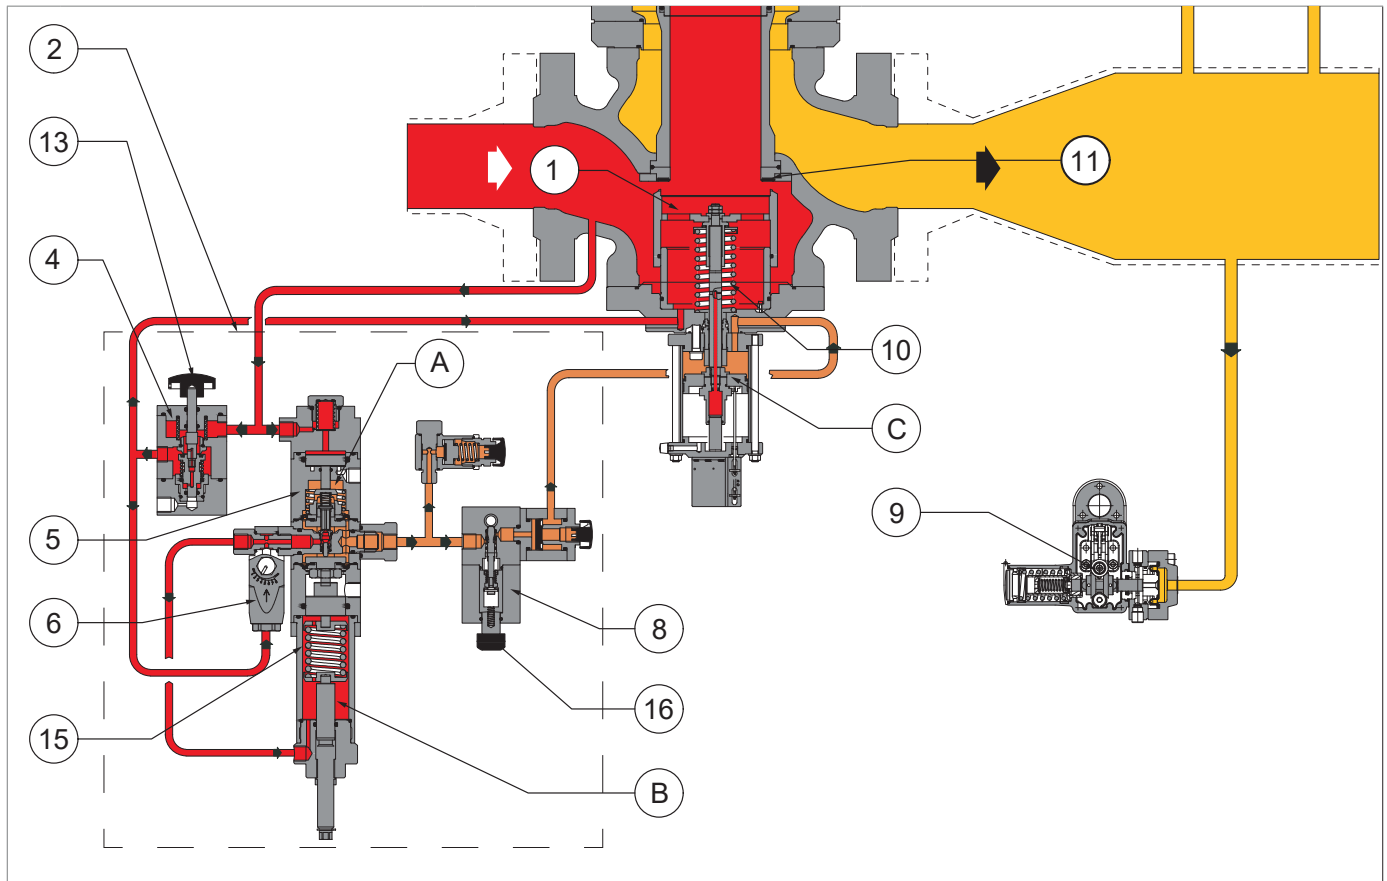

Fig. 4.13. REVAL 182 with HB/97 incorporated slam-shut valve
The HB/97 incorporated slam-shut valve consists of (see Fig. 4.13):
The LINE OFF 2.0 device (2) consists of (see Fig. 4.13):